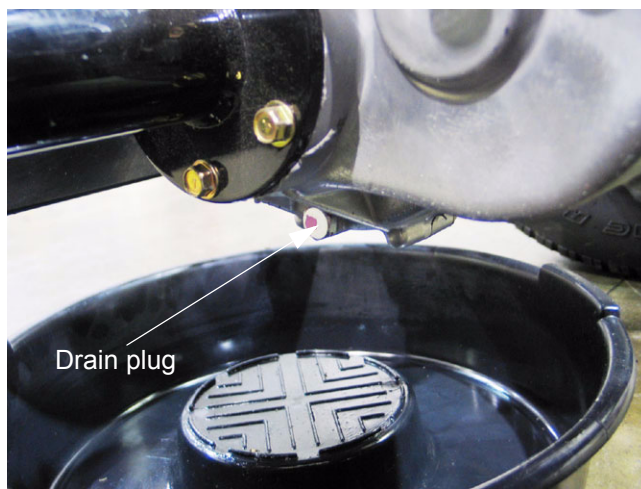

Figure 6.4
- 6.4. Place a drain pan beneath the transaxle, and remove the drain plug using a 17 mm wrench. See Figure 6.4.